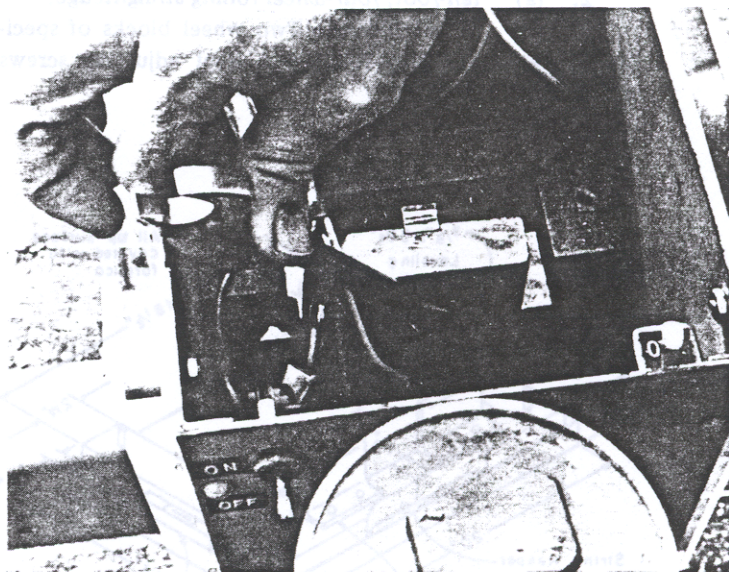

Figure 6
(1) *Units with Adjustable Gear Drive* - To adjust units with square face and adjustable gear, remove the top of the case, loosen the gear as shown in Figure 6. Set the pointer to zero, tighten the gear, and replace the top of the case.